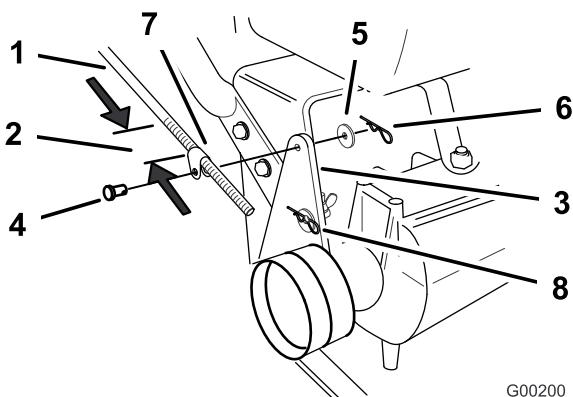

Figure 9
2. Make sure the rod fittings are equal distance onto each control rod. The rod fittings should be approximately 3-1/2 inch (89 mm) from the start of the threads for the handles lowest position (Figure 9).
3. Slide clevis pins through rod fittings and mounting holes in idler brackets (from outside) (Figure 9). Secure with washers and hairpin cotters (Figure 9).